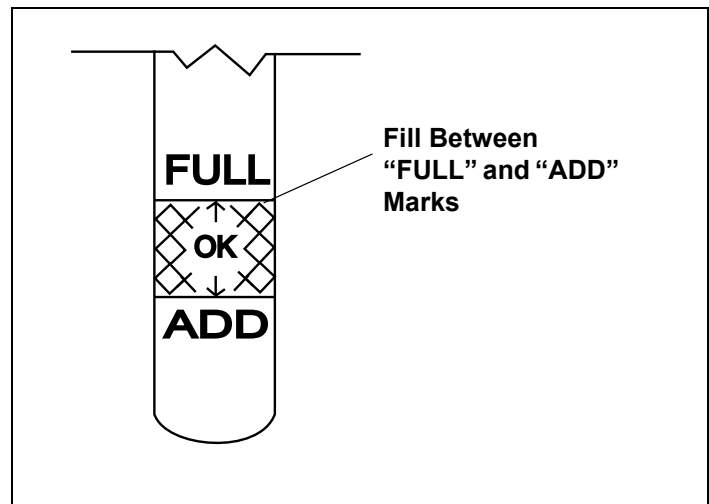

Figure 6. Engine Oil Level
- Keep oil level between "FULL" and "ADD" marks on dipstick or to point of overflow on engines without dipstick. See Figure 6.
4. Unscrew and remove oil fill cap dipstick from oil filler tube. Note oil level. If oil reading on dipstick is below "ADD" mark, slowly add oil to reach "FULL" level. See Figure 6 on page 4. Afterward, continue reading instructions below.